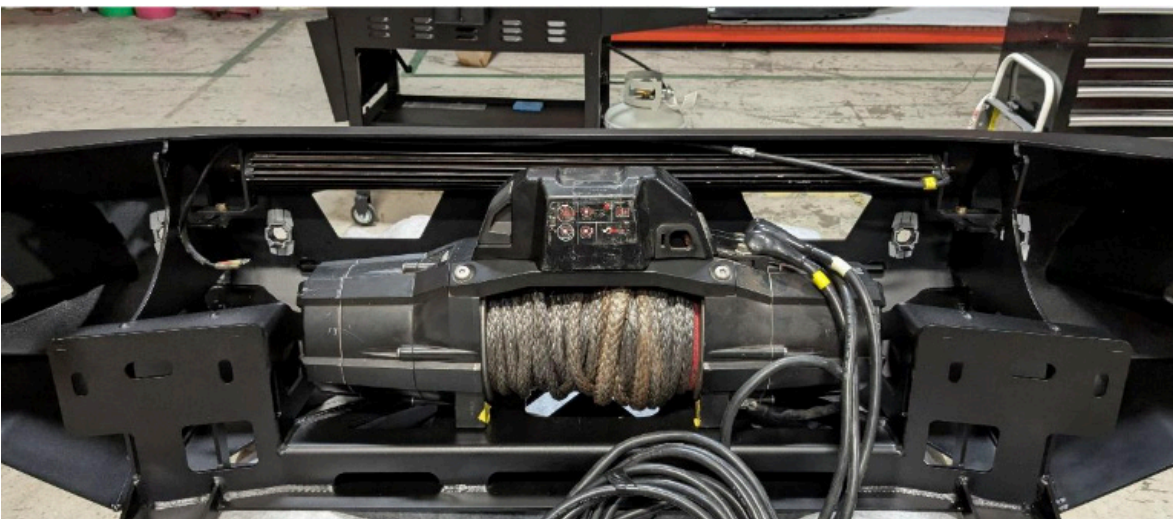

Figure 45.
36. If installing a winch, do so now using the winch manufactures hardware per their instructions. Figure 45.